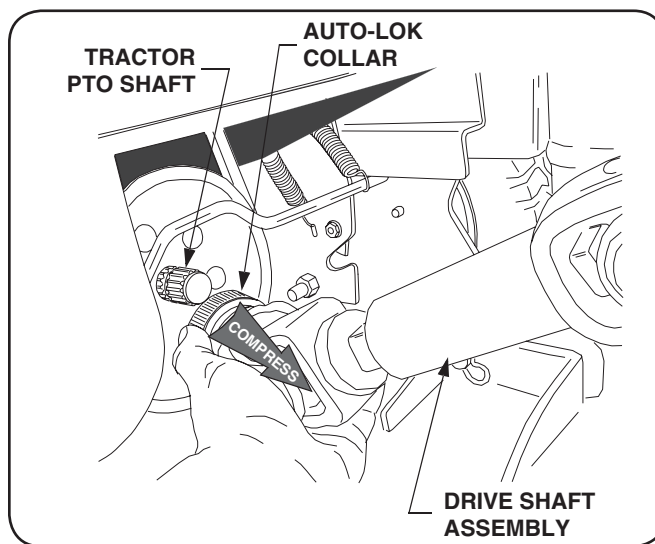

Figure 4-8
9. Pivot the female half shaft out of the cover slot and position so that it points rearward between the tractor frame. Refer to Figure 4-8.
11. Compress the auto-lock collar on the snow thrower drive shaft; then slide the shaft fully onto the PTO shaft of the tractor and release the auto-lock collar (See Figure 4-8). The drive shaft will lock onto the PTO shaft if properly connected.
2. Compress the auto-lock collar of the snow thrower drive shaft and disconnect the shaft from the tractor PTO shaft. Refer to Figure 4-8.